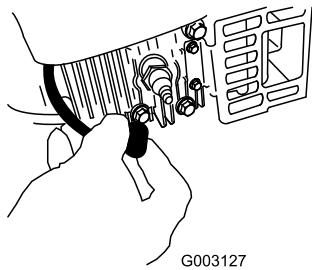

Figure 34
- Disconnect the spark plug wire from the spark plug (Figure 34) before performing any maintenance procedure.